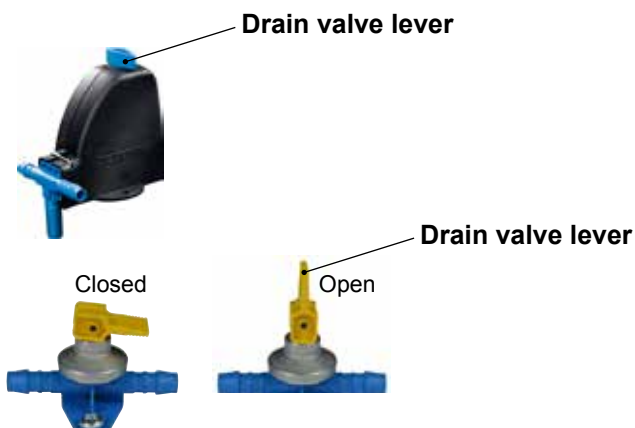

Figure 5. Safety/drain valve
3. Open the safety/drain valve by turning the lever (See Figure 5). Check your RV owner's manual to find the location of the safety/drain valve.